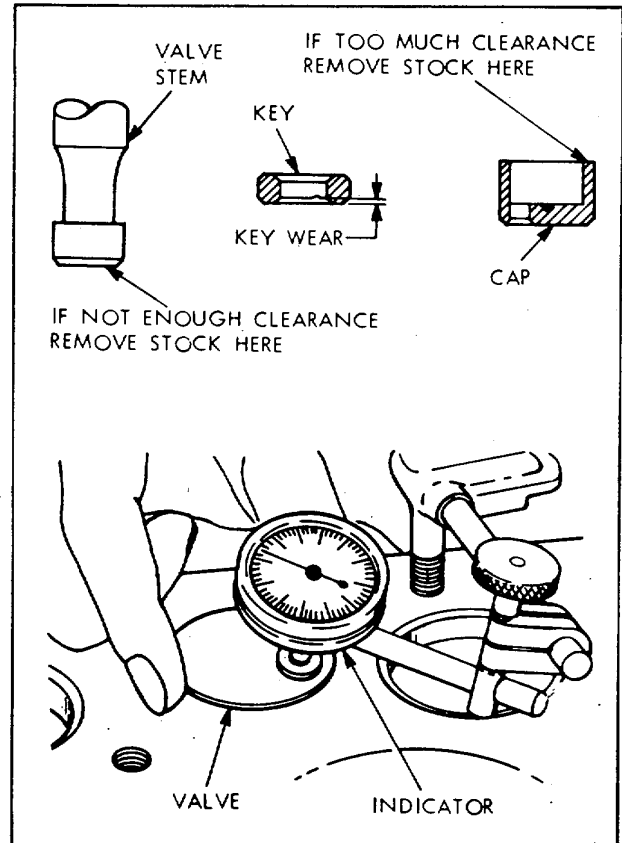

Figure 6-41. Checking Rotator Cap Clearance
e. Installation. Reverse b (2) above, perform f below, then reverse b(l) above.
(1) Set up a dial indicator (Figure 6-41) to contact top of installed valve, and turn engine until valve opens. Valve is now free to turn, and can be moved vertically through rotator clearance, if any exists.
(2) Raise and lower valve with fingers, noting indicator reading total. If not between 0.002 and 0.006 inch, adjust as required as shown in figure 6-41.